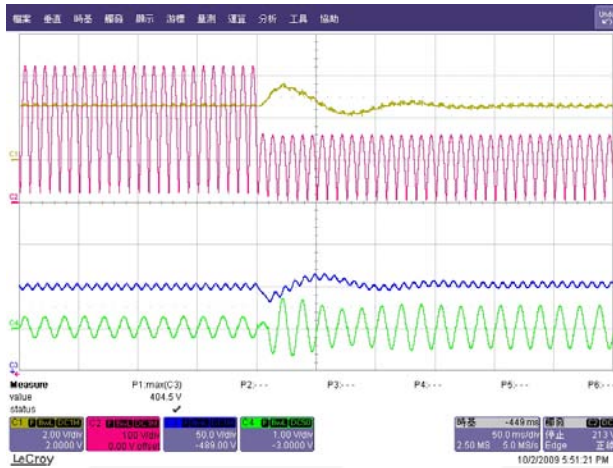
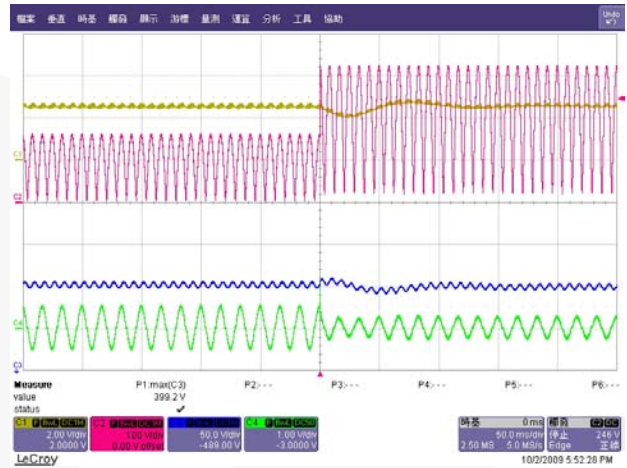

Figure 15. 230V_{AC} to 115V_{AC} Line Transient
Figure 16. 115V_{AC} to 230V_{AC} Line Transient
- Figure 15 and Figure 16 show the line transient operation and minimal effect on the output voltage due to the line feed forward function. When the line voltage changes from 230V_{AC} to 115V_{AC}, 14.5V (3.72% of nominal output voltage) voltage undershoot is observed. When the line voltage changes from 115V_{AC} to 230V_{AC}, almost no voltage undershoot is observed.